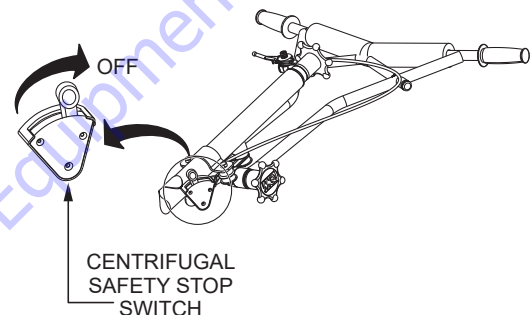

Figure 39. Centrifugal Safety Stop Switch (OFF)
- With the engine running at idle, place the safety stop switch lever in the **OFF** position (Figure 39). Verify that the engine shuts off. If the engine continues to run, replace the centrifugal safety stop switch.